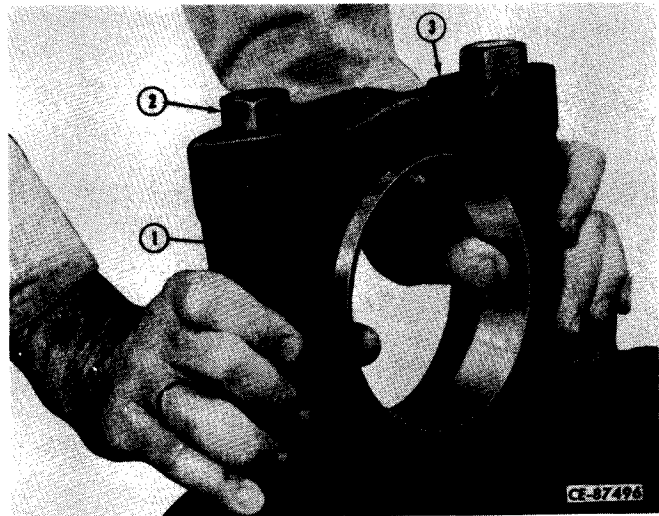

Figure 6-46
Temporarily install bearing cups (1, Fig. 6-46) and bearing caps (3). Tighten bearing cap retaining cap screws (2) to recommended torque (refer to "SPECIAL TORQUES").
Bearing cups (1, Fig. 6-46) must be a hand push fit in their respective bores. If cups are too tight, bores must be reworked with emery cloth until a push fit is obtained. Use a blued bearing cup as a gauge and check fit often. When cups fit properly, remove bearing caps.